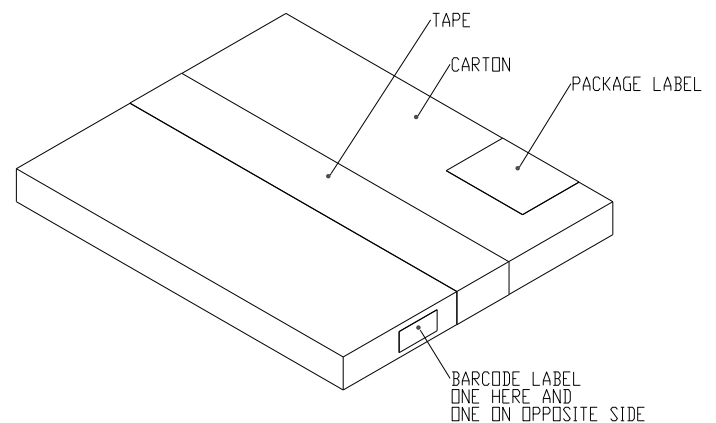

Figure 2
11. Close carton then seal using the white filament tape (Figure 2).
12. Place a package label on the top right of the carton (Figure 2). Place one 2.25x1.25 barcode label on the side of the carton and another one on the opposite side. Make sure both labels are straight and wrinkle free (Figure 2).